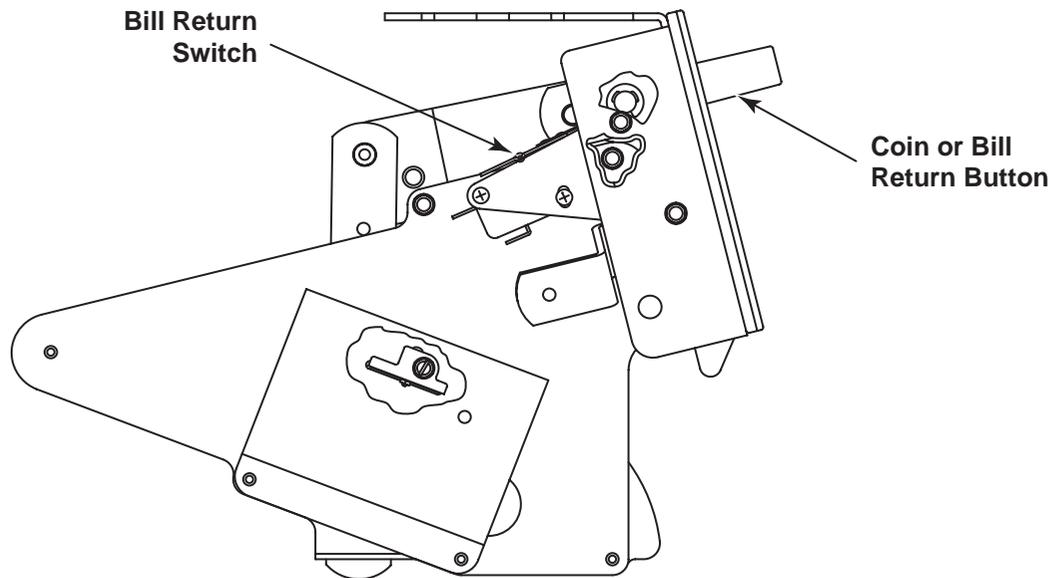

Figure 1-6. Bill Return Switch
When the COIN or BILL RETURN button (*see Figure 1-6*) is depressed, a switch closes and sends a signal to the CCC. The coin lockout coil in the coin acceptor is released and the transport motor rotates in the reverse direction. If the bill reject button is pressed (ON) for more than 10 seconds, the transport will turn OFF automatically to prevent excess wear and overheating and the message “CKBILLRETRNSW” will be displayed and the switch will be ignored until the FUNCTION button is pressed.